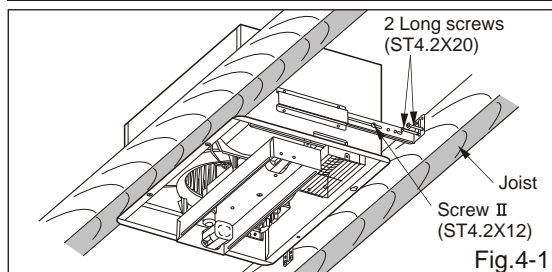
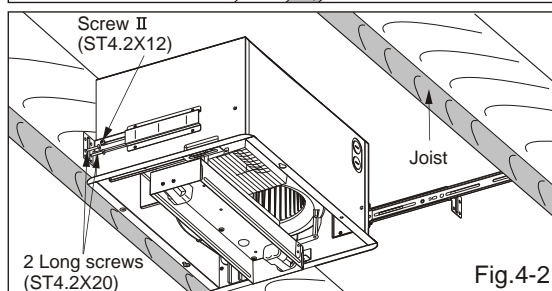

Fig.4-1
Fig.4-2
4. Install the suspension bracket to joists by using long screws (ST4.2X20) and secure it to the fan body by using screw II (ST4.2X12). 16 inches and 19.2 inches horizontal joists refer to Fig.4-1, 19.2 inches vertical joists and 24 inches refer to Fig.4-2.